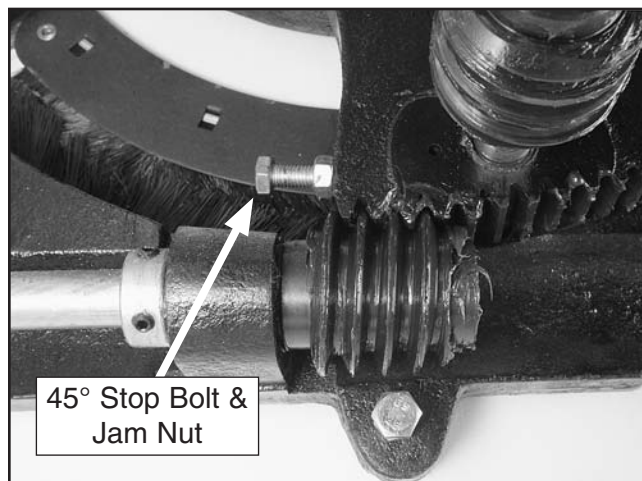

Figure 111. 45° stop bolt and jam nut.
6. Loosen the jam nut on the 45° stop bolt (see **Figure 111**) with a 13mm wrench, adjust the stop bolt up or down according to how far off the blade was from 45°.